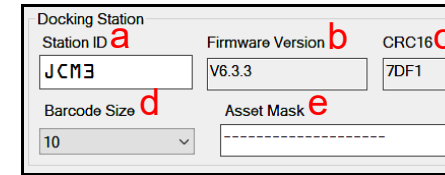

Figure 5 DSA Main Screen Docking Station Group
The Docking Station Group (Figure 5) includes the following functions (fields):
- **Station ID:** The Station ID data entry field (Figure 5 a) displays the Name or Serial Number currently assigned to the connected Docking Station. When the DSA Application is first started, this field displays all zeroes (00000000). Click the Reload button to refresh the DSA Main Screen and update this field with the current Name or Serial Number. To change the Station ID Name or Serial Number, click on the current Name or Serial Number, then enter the new desired alpha-numerical value. Once changed, the new value is displayed in this data field, as well as on the ICB MDM screen.
- **Firmware Version:** The Firmware Version data field (Figure 5 b) displays the current Firmware Version installed on the connected Docking Station. This field is automatically updated whenever new Firmware is downloaded to the Docking Station.
- **CRC16:** The CRC16 data field (Figure 5 c) is used to display the 16-bit CRC (Cyclic-Redundancy Check) value of the Firmware version currently installed in the Docking Station. This data field is updated automatically whenever new Firmware is downloaded to the Docking Station.
- **Barcode Size:** The Barcode Size data field (Figure 5 d) displays the number of digits being used or passed by the Docking Station for the EGM Asset number when working with the ICB (Intelligent Cash Box) System. This data field features a pull-down menu allowing the user to select the number of digits to be used (depending on the type of Count Room equipment the Docking Station will be working with). The current options available for Barcode digits are: 1 through 20 or None (default).
- **Asset Mask:** The Asset Mask data entry field (Figure 5 e) displays the current value of any Asset Number Mask being added or applied to the EGM Asset Number when it is passed from the Docking Station to either MDM and/or the Customer's Count Room equipment. This field may be altered, and allows for the insertion of a fixed value number at the beginning, middle, or end of the Asset Number. If no mask value is assigned, this data field defaults to a null field of 20 dashes (bits).